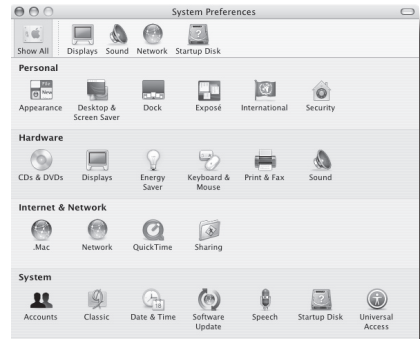

Figure 2
3. Next open the Sound preference (figure 2).